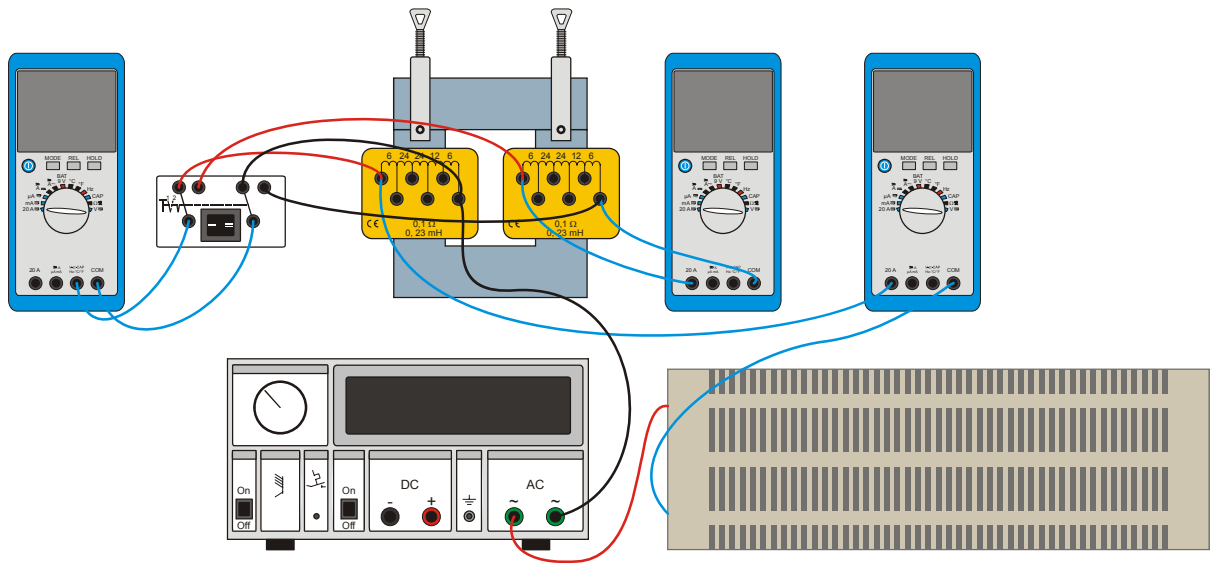

Fig. 1: Experiment set-up.
- Assemble the transformer from the transformer core and two low-voltage coils with 72 windings, as shown in Fig. 1.